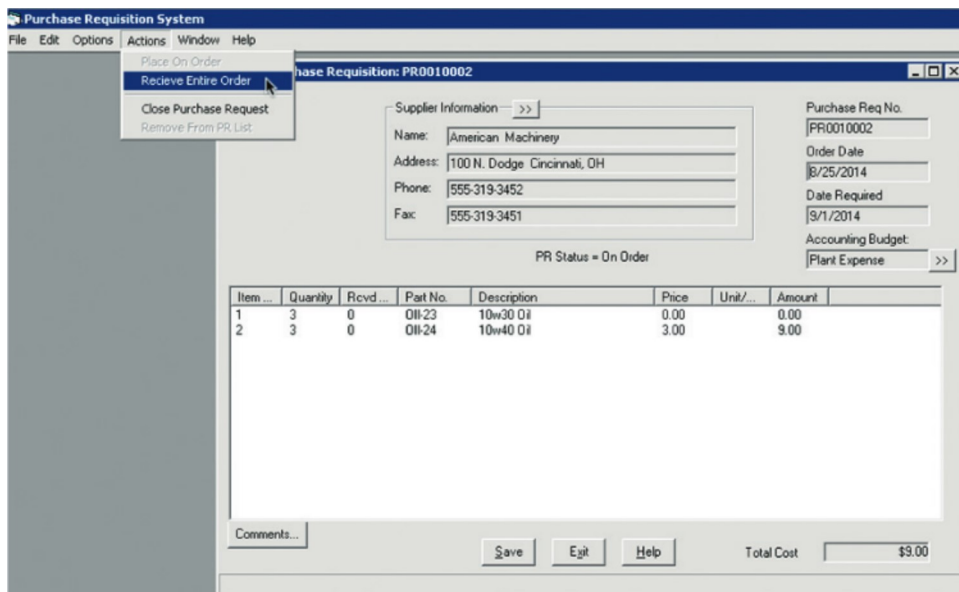

Figure 51. Purchase Requisition System: Actions—Receive Entire Order.
5. Select **Receive Entire Order** (see Figure 51).